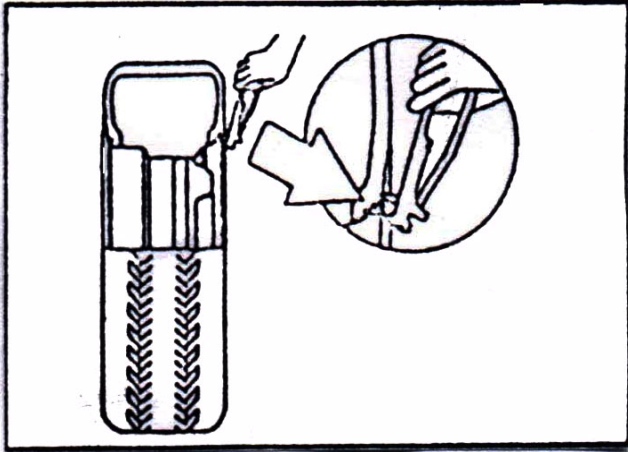

FIG 17
4.1.1 Deflate the air in the tire completely and pull out the core. Use the special tool to detach the weight on the rim (FIG17).